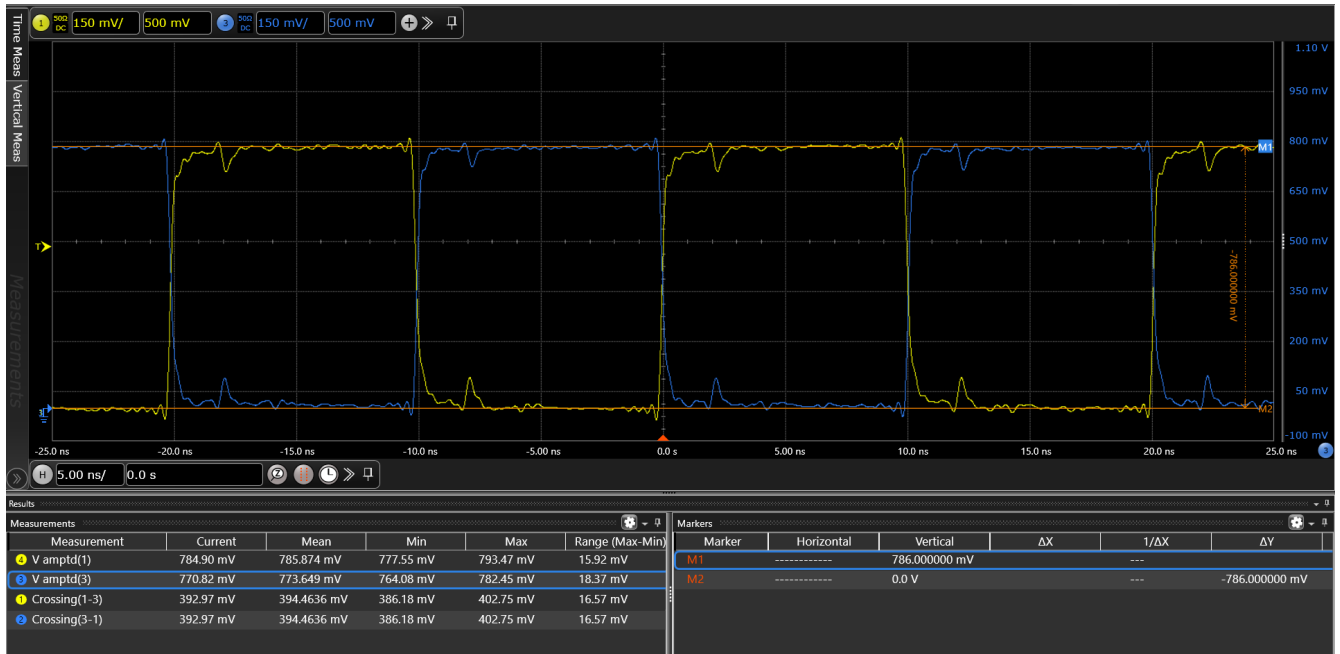

Figure 17. Vovs – HCSL External Termination, Boost = 0% on OUT0 (yellow trace) and nOUT0 (blue trace)
- Figure 17. Vovs – HCSL External Termination, Boost = 0% on OUT0 (yellow trace) and nOUT0 (blue trace)9